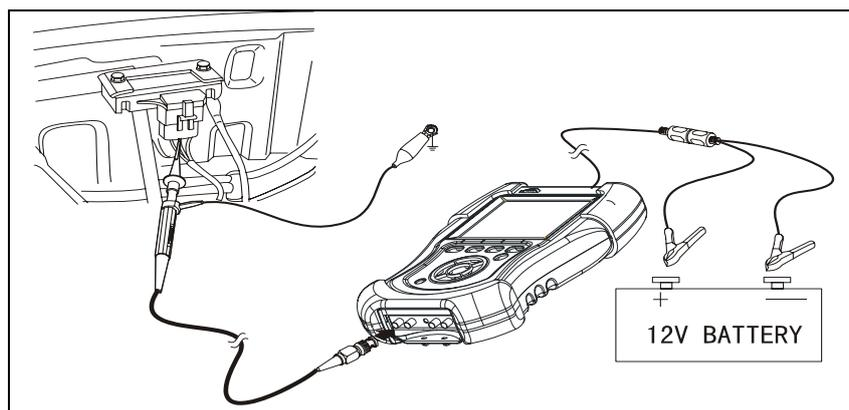

图 3-1
1. Connect equipment according to Fig.3-1, switch on power supply switch of KT600;